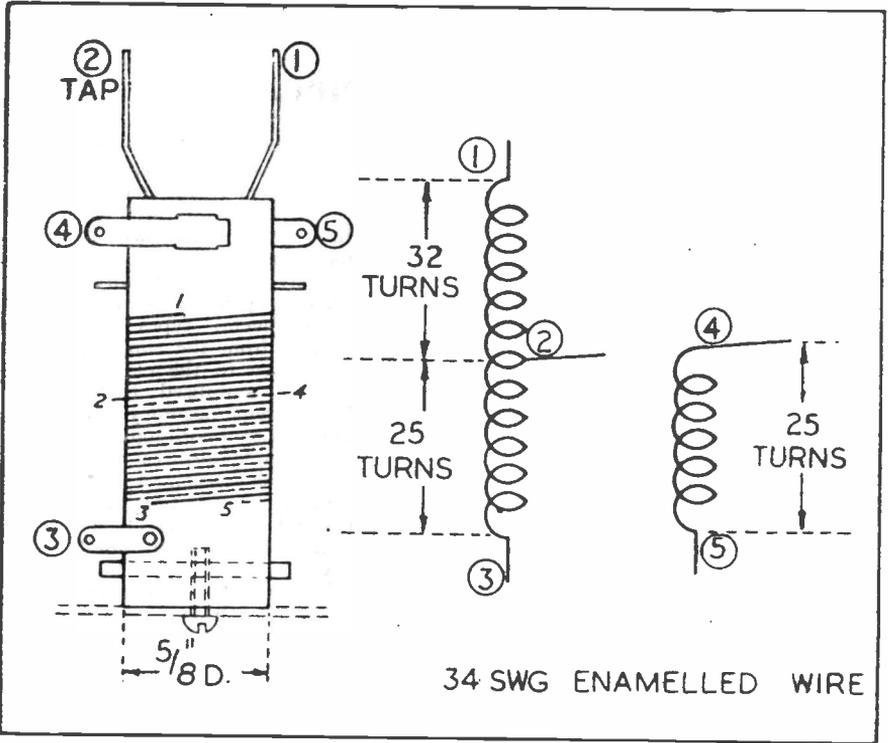

Fig. 2. Coil details.
**Coil.** The coil used in the frequency meter is not a standard product, so will have to be wound, but this is not a difficult procedure. Full details are shown in Fig. 2. It is not necessary that the tags on the former be arranged exactly as drawn,